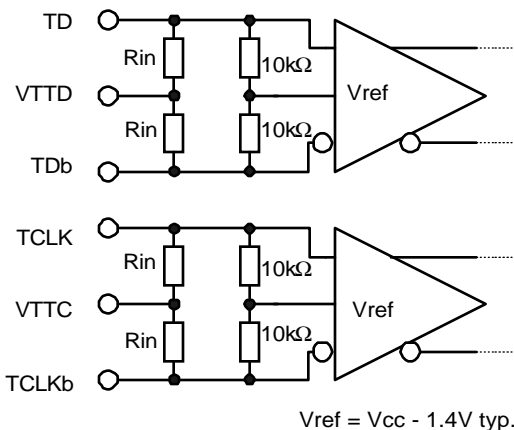

Figure 3 Data and Clock Input Interface
1. Termination current is not included. 2. Measured between each signal input and VTTD or V TTC. Refer to Figure 3.